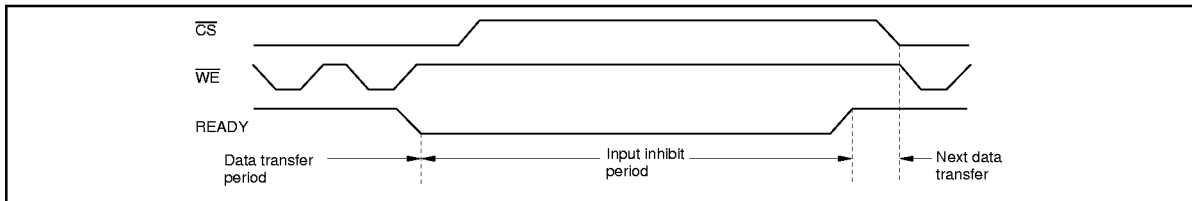

Figure 12 READY Output Timing (When It Is Always Available)
- a. READY is mode always available (Figure 12).